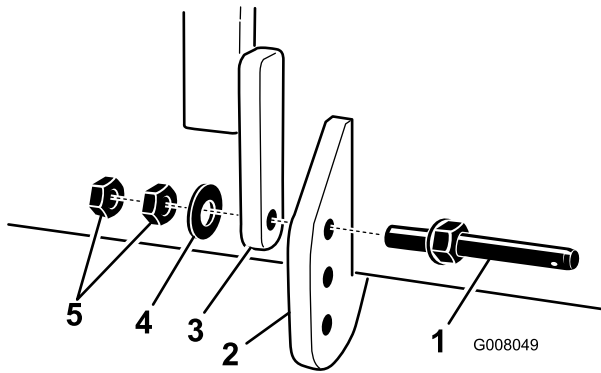

Figure 4
C. Mount a link pin assembly to each support arm and aerator mounting tab with a washer and (2) jam nuts (Figure 4).